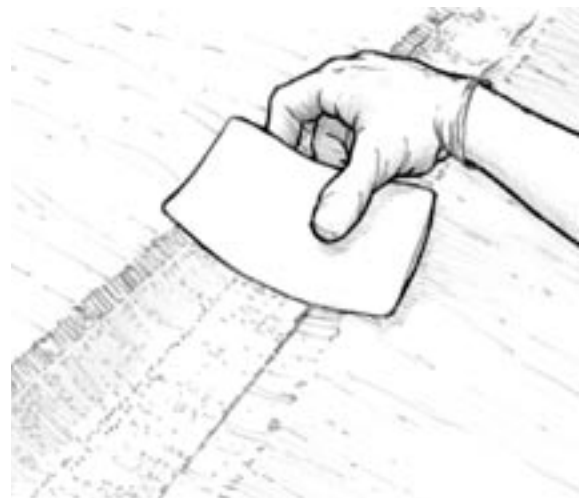

Figure 6-11 Apply fibreglass tape over the prepared joint.
6. Apply a layer of fibreglass tape in the depression along the joint (*Figure 6-11*). Use the squeegee to work epoxy into the fabric and remove the excess. Apply additional layers, if desired, in the same manner. Place new layers 12mm to either side of the previous layer so the edges do not fall directly on top of each other. For details on applying fibreglass cloth, see Section 3.4.6.